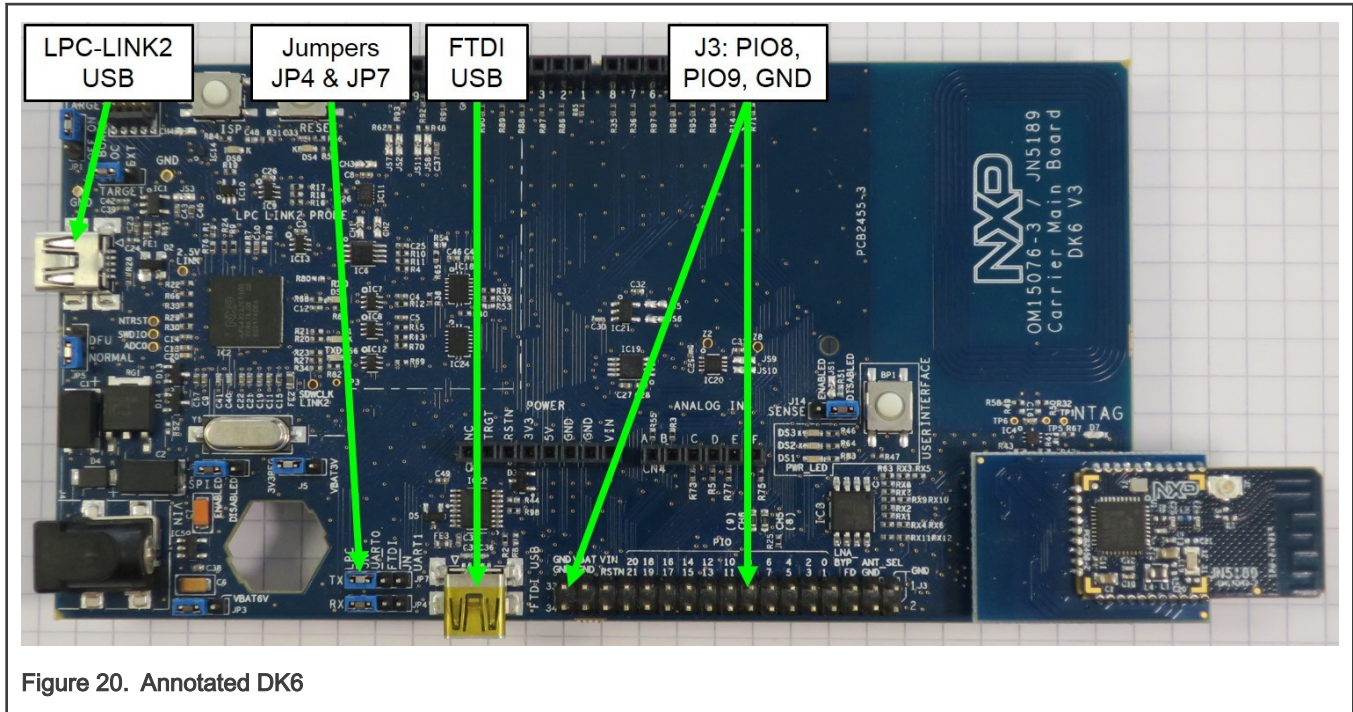

Figure 20. Annotated DK6
- the LPC-LINK2 USB port (JP4 and JP7 in the leftmost position as shown in Figure 20)